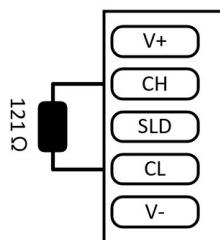

Figure 5-6-2 Terminal resistance wiring
**Notice:** The power interface on the CANopen adapter requires a separate DC 24V power supply. Terminal resistors must be added to both end modules of the network. The wiring method for the terminal resistors is shown in Figure 5-6-2.